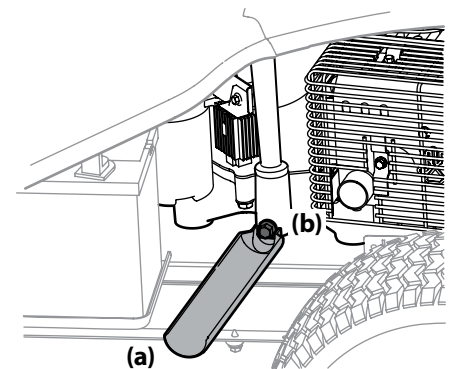

Figure 4-1
4. Snap the small end of oil drain sleeve (a) onto the space provided around the oil drain plug (b). See Figure 4-1.